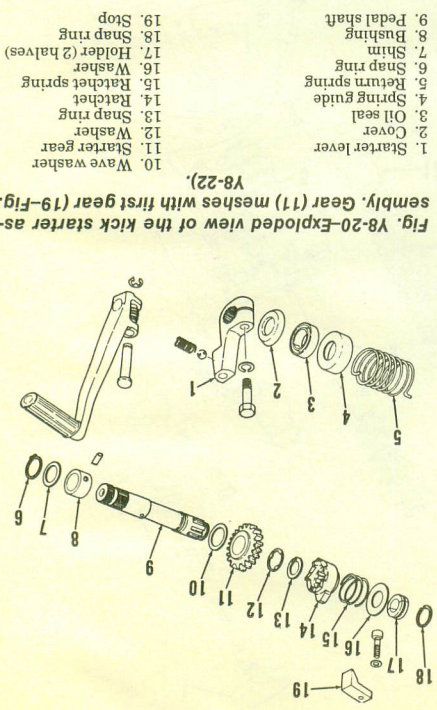

Fig. Y8-20-Exploded view of the kick starter assembly. Gear (11) meshes with first gear (19)-Fig. Y8-22.
detent (13) and retainer plate (15). Remove kick starter spring guide (4—Fig. Y8-20) and return spring (5). Turn the crankcase assembly upside down, remove the attaching screws and carefully separate the crankcase halves.